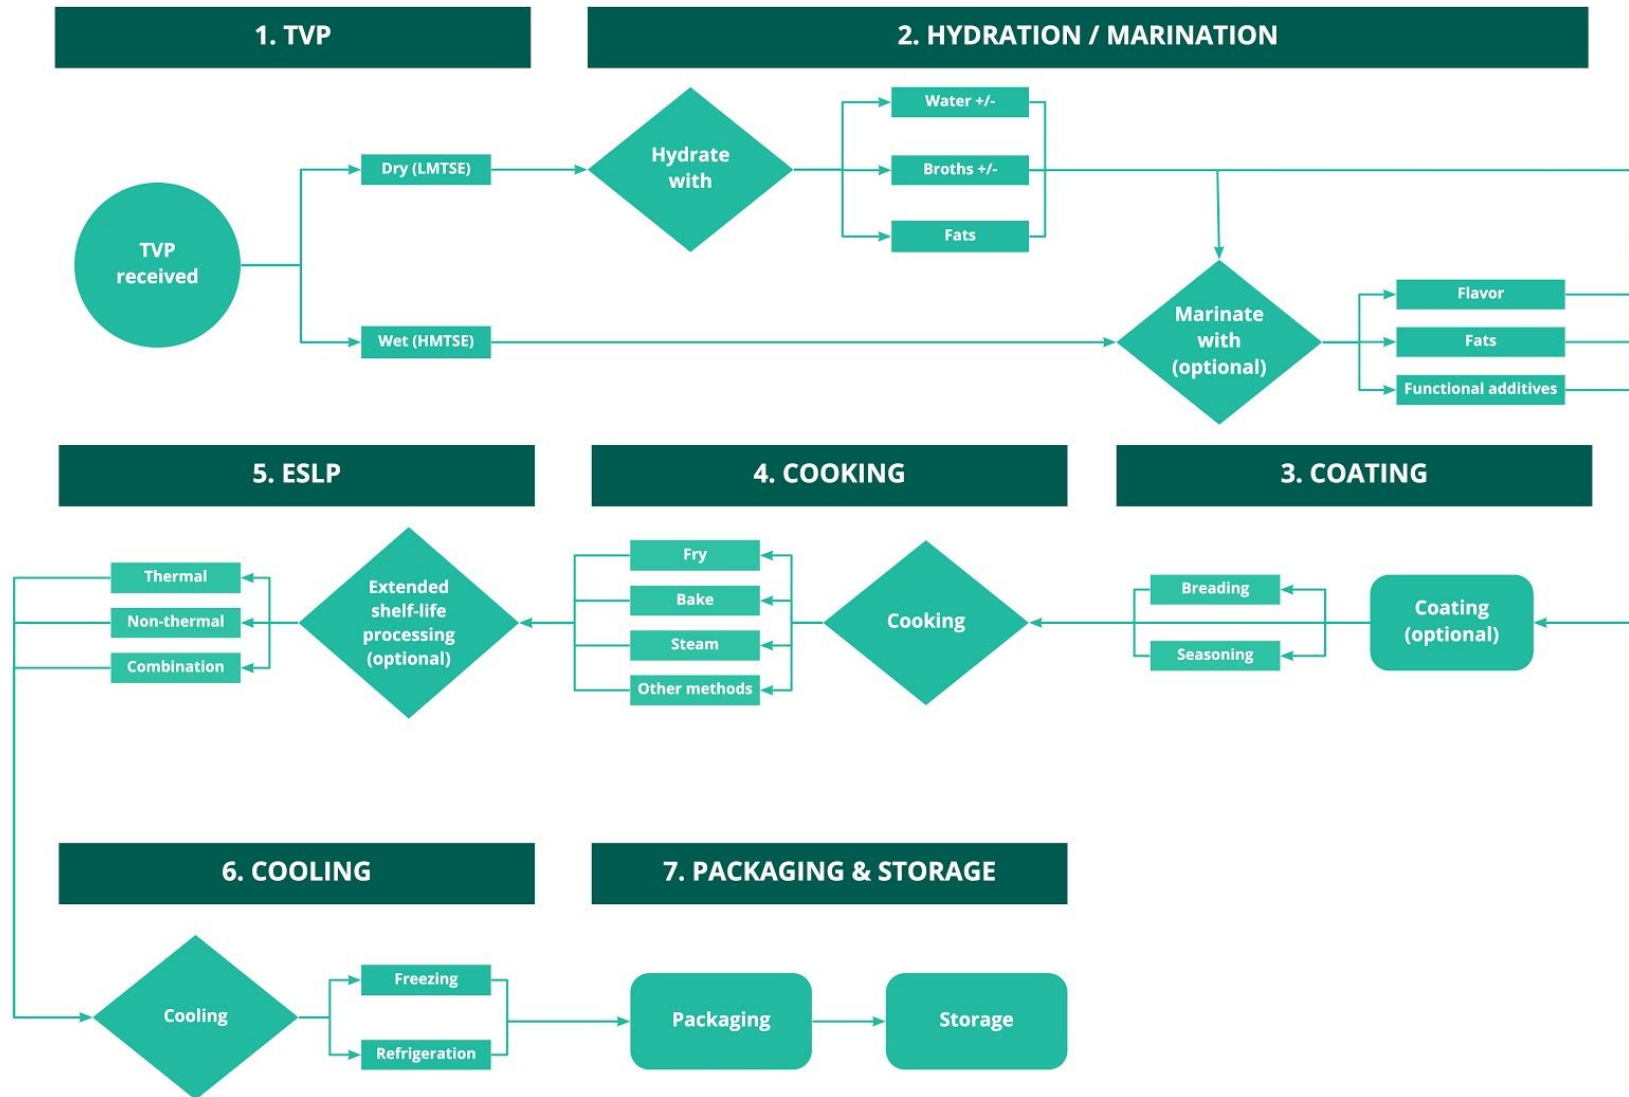

Figure 3. Process flow diagram for whole muscle meat products
**Steps 1 - 7 below follow the figure 3 illustration, “Process flow diagram for whole muscle meat products” found on page 8.**